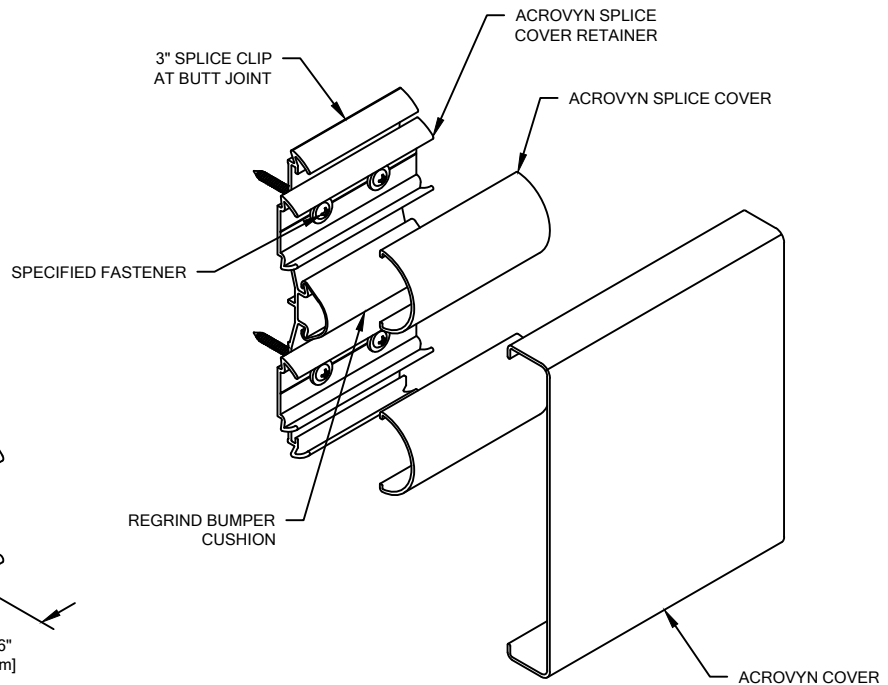

FIGURE 2.
5. FASTEN CLIPS TO WALL USING THE APPROPRIATE FASTENERS. 1 1/2" [38.1mm] CLIPS ARE TO BE INSTALLED AT 16" [406.4mm] O.C. AND 3 3/16" [81.0mm] CLIPS ARE TO BE INSTALLED AT BUTT JOINTS WITH THE ACROVYN SPLICE COVER RETAINER ATTACHED TO THE FACE. USE A LEVEL TO INSURE THAT THE CLIPS AND SPLICES ARE INSTALLED PLUMB. (SEE FIGURE 2)